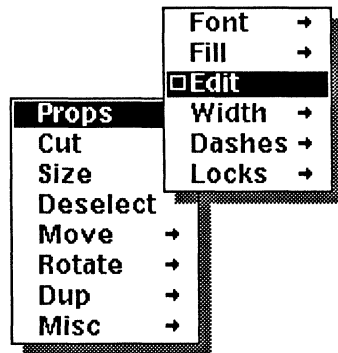

Figure 23-11. Props Edit command
- ✓ Select the microdocument and execute the **Props Edit** command (Figure 23-11).